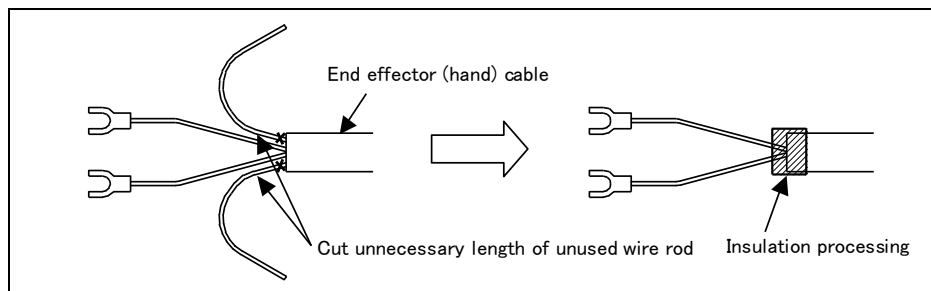

Fig. 9.7 (a) Treatment method of end effector (hand) cable
- Cut unnecessary length of wire rod. Make insulation processing like winding acetate tape. (See Fig. 9.7 (a))
Fig. 9.7 (b) to (e) show the position of the end effector interface. EE interface (RI/RO), I/O Unit-MODEL B interface and user cable (signal lines, power lines), DeviceNet cable (signal lines, power lines) and Additional axis motor cable (power, brake/Pulsecoder) and Ethernet cable (signal line/power line) are prepared as options.